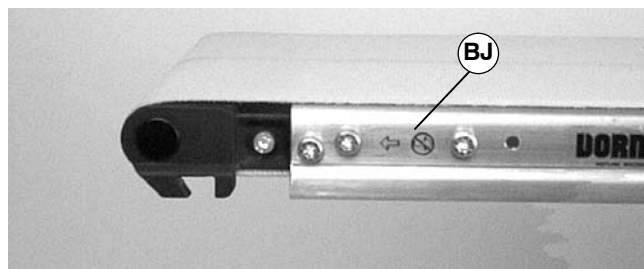
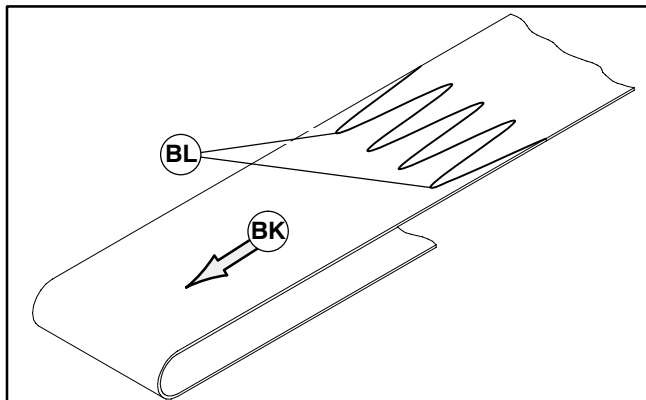

Figure 34
Figure 36
IMPORTANT: Belt travel direction is identified by an arrow decal on the side of the conveyor (BJ of Figures 34 & 35).
1. Orient the conveyor belt so that the splice leading fingers (BL of Figure 36) point in the direction of belt travel (BK) as identified by the label (BJ of Figures 34 and 35).